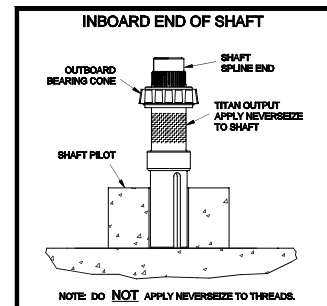

Figure 6.3.4.1—Placement of Outboard Bearing Cone on Shaft
4. Place the outboard bearing cone squarely on the inboard end of the shaft with the smaller diameter of the bearing facing inboard; reference Figure 6.3.4.1.